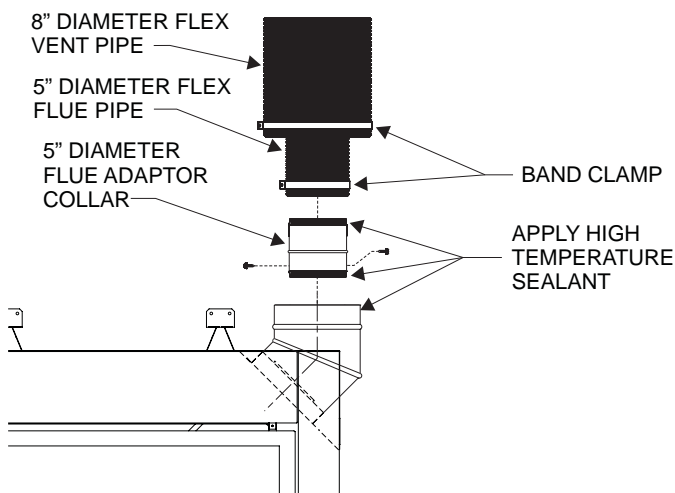

Figure 57
5. Install the Wall Firestop/Thimble assembly as required through the wall. Refer to the venting charts in the fireplace manual to determine the proper height and size of the vent opening. The minimum opening should be 10in wide by 12in high. The minimum combustible clearance from the horizontal vent is 1in from sides and bottom, and 3in above the vent pipe. **See Figure 57.**
10. Apply sealant to the outside of the flue pipe adapter and connect to the flex flue pipe. Then insert the adapter into the 45° elbow's inner flue pipe. Secure flue adapter with a minimum of two screws provided. **See Figure 57.**